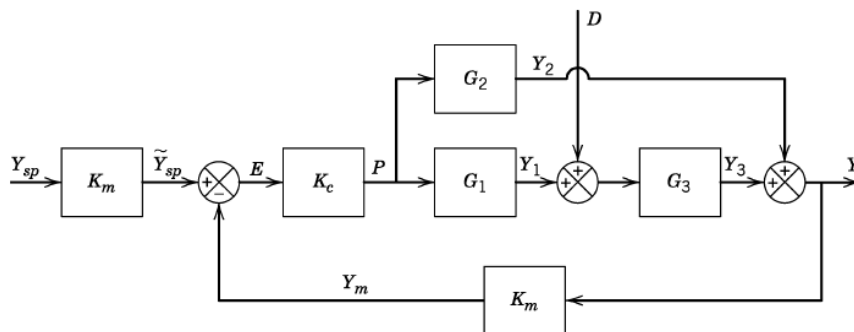

Figure E11.10
11.10 A block diagram of a closed-loop system is shown in Fig. E11.10.